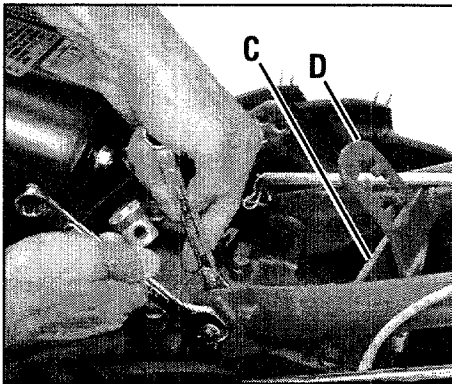

Figure 2-3: Attach handlebars.
2. Position the handlebar cross-brace (C, Figure 2-3) in front of the curved height adjustment bracket (D) and place the handlebar ends to the outside of the two mounting tabs on top of the transmission.
3. Attach the handlebars to the mounting tabs with two 3/8"-16 x 1" screws (heads of screws go to inside of tabs), 3/8" flat washers and 3/8"-16 Nylock locknuts (see Figure 2-3). Do not fully tighten the screws at this time.
5. Thread the height adjustment handle (F) into the threaded hole in the handlebar cross-brace, making sure that the raised keys on the washer fit into the selected slot on the curved bracket. Tighten the handle securely. Next, securely tighten the two screws that attach the handlebars ends to the mounting tabs (Figure 2-3).